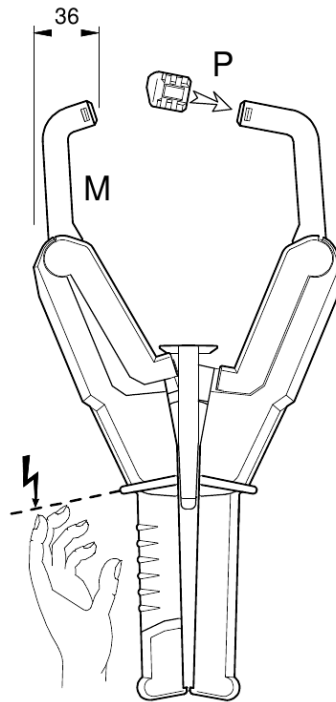

Figure 2.48: Protection against electric shock and short-circuit
- Use safety cover 'P' Figure 2.48 [→48] for protection against short-circuits during clamping!